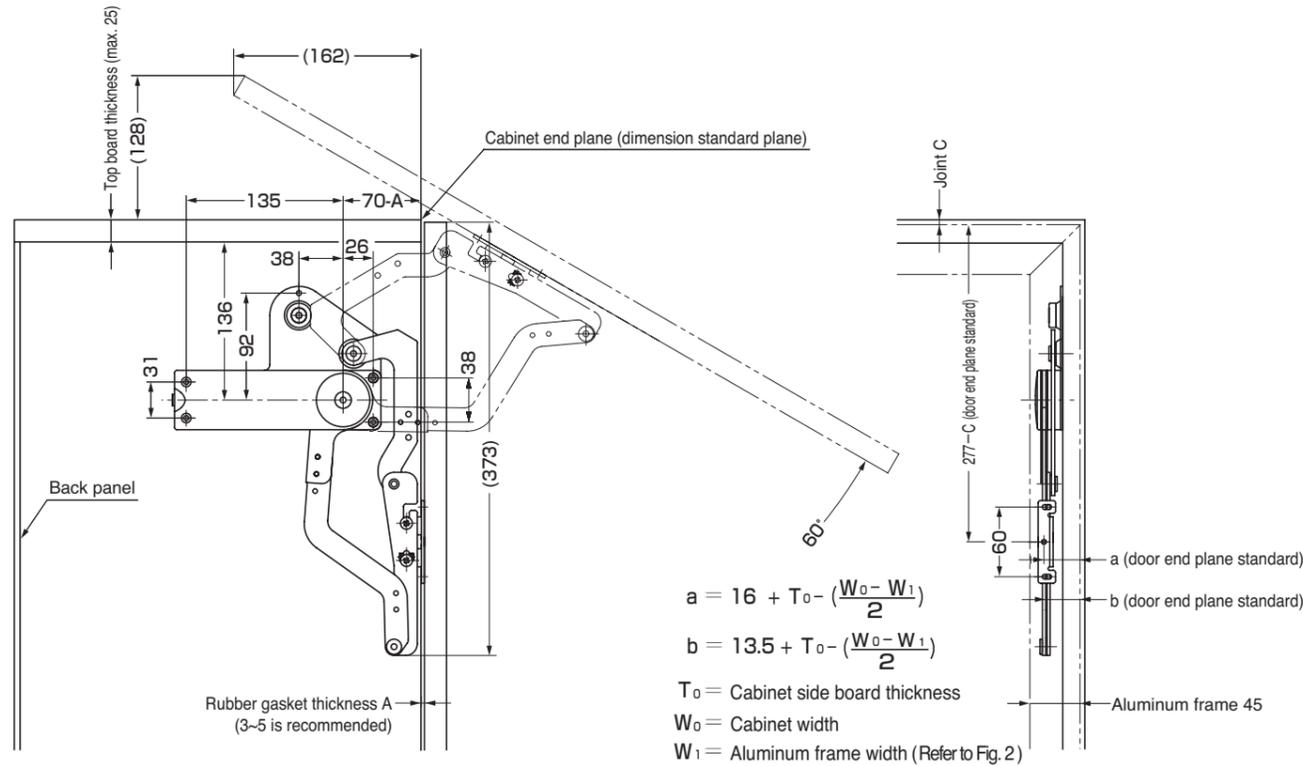

Fig. 3. Mounting dimensions for installing to 45mm width aluminum frame door or solid wooden door
Step 1. Place the EZ-SLU body unit; ① the right-hand side body and ② the left-hand side body to the specified position on the inside surface of the cabinet (as for the mounting dimensions refer to Fig. 3 and 4) and fix the positions except \* A part with the attached bind tapping screws 3.5x15 ③.
Step 2. Supporting the arm and the unit mounting plate, turn them slowly in the arrow direction, and when the fixing hole of \* A part appears, fix its position with the bind tapping screw 3.5x15 ③ in the same way as Step 1.